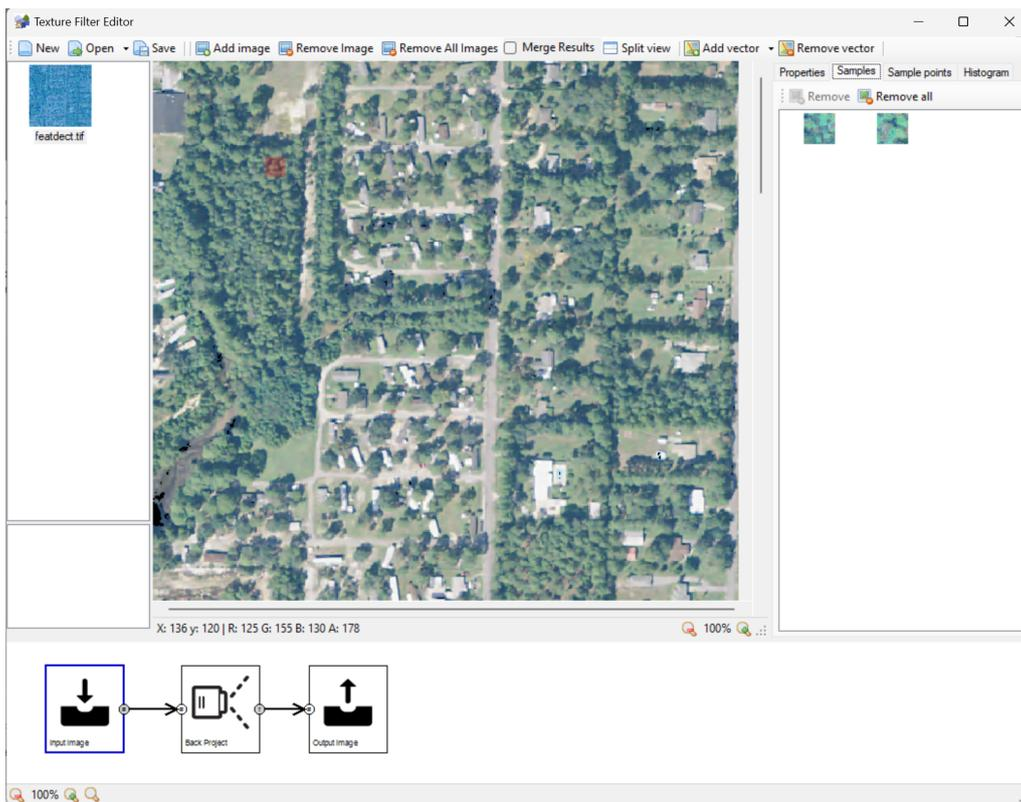

Figure 6.8: Selecting sample images
- **Samples** shows the sample images that are used with the Back Project step. When you have this tab active you can also select on area in the preview by dragging over it to add a new sample image to the list, see Figure 6.8.